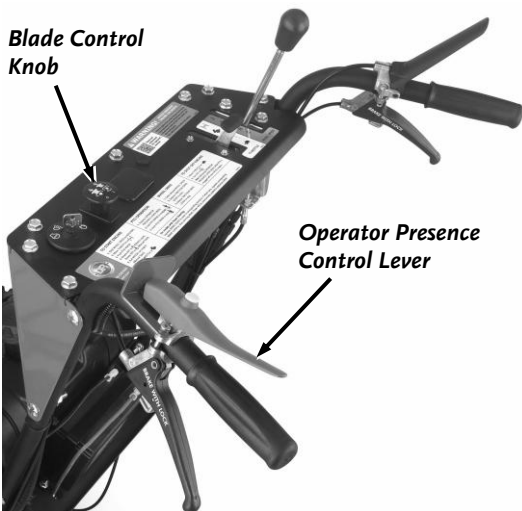

Figure 20
- Push down the Operator Presence Lever against the Handlebar Grip (Figure 20).